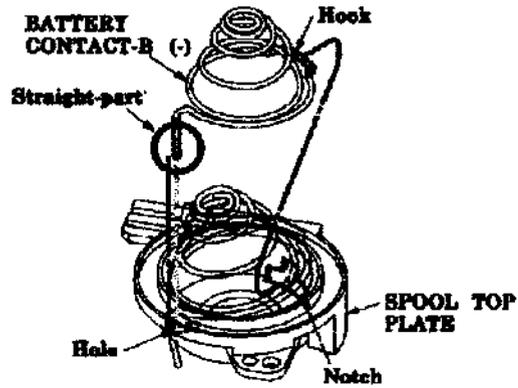

Fig. 3 (Data model only)
**To activate without Top Cover (Fig. 3)**
■ Fig. 3